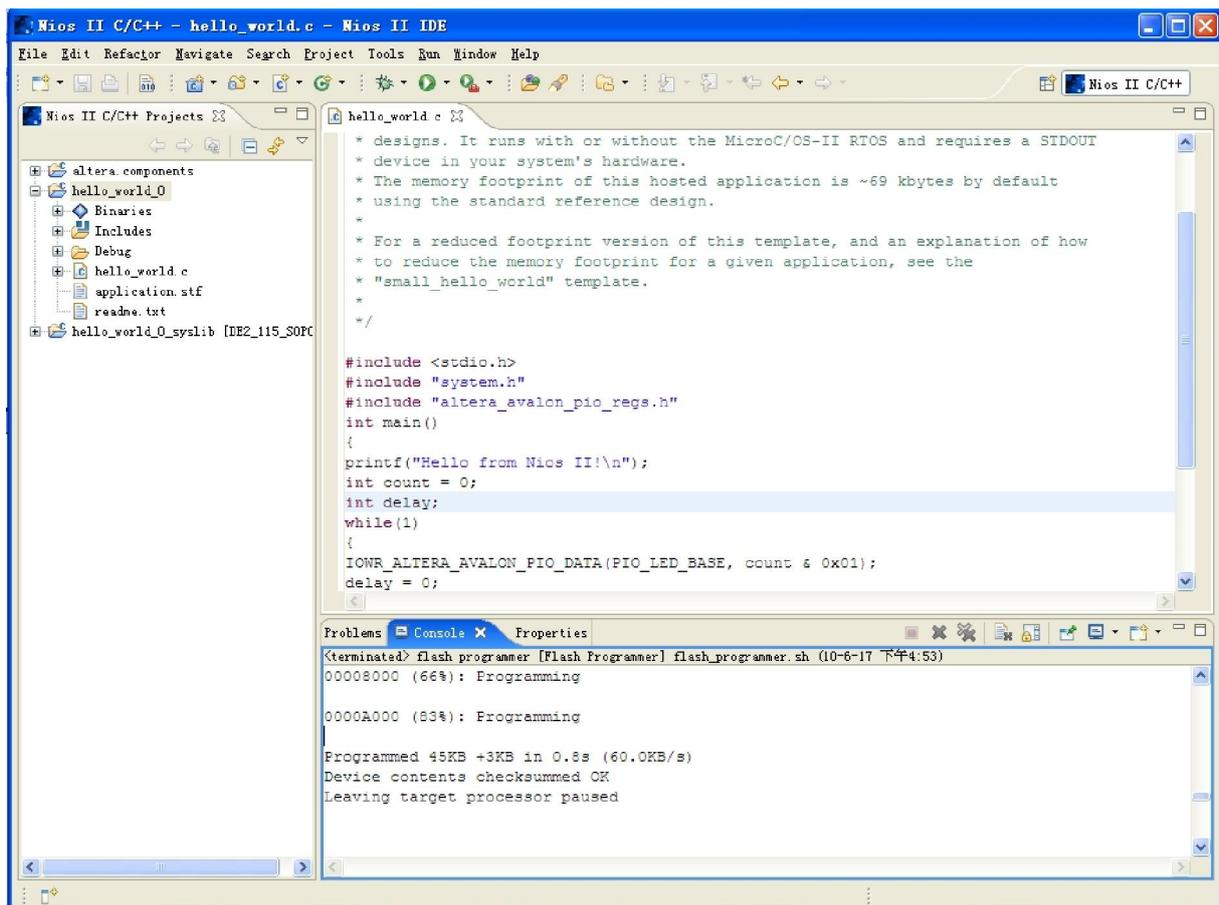

Figure 3-17 Program Flash completely
4. When program flash completely, the console tab displays as shown in Figure 3-17.